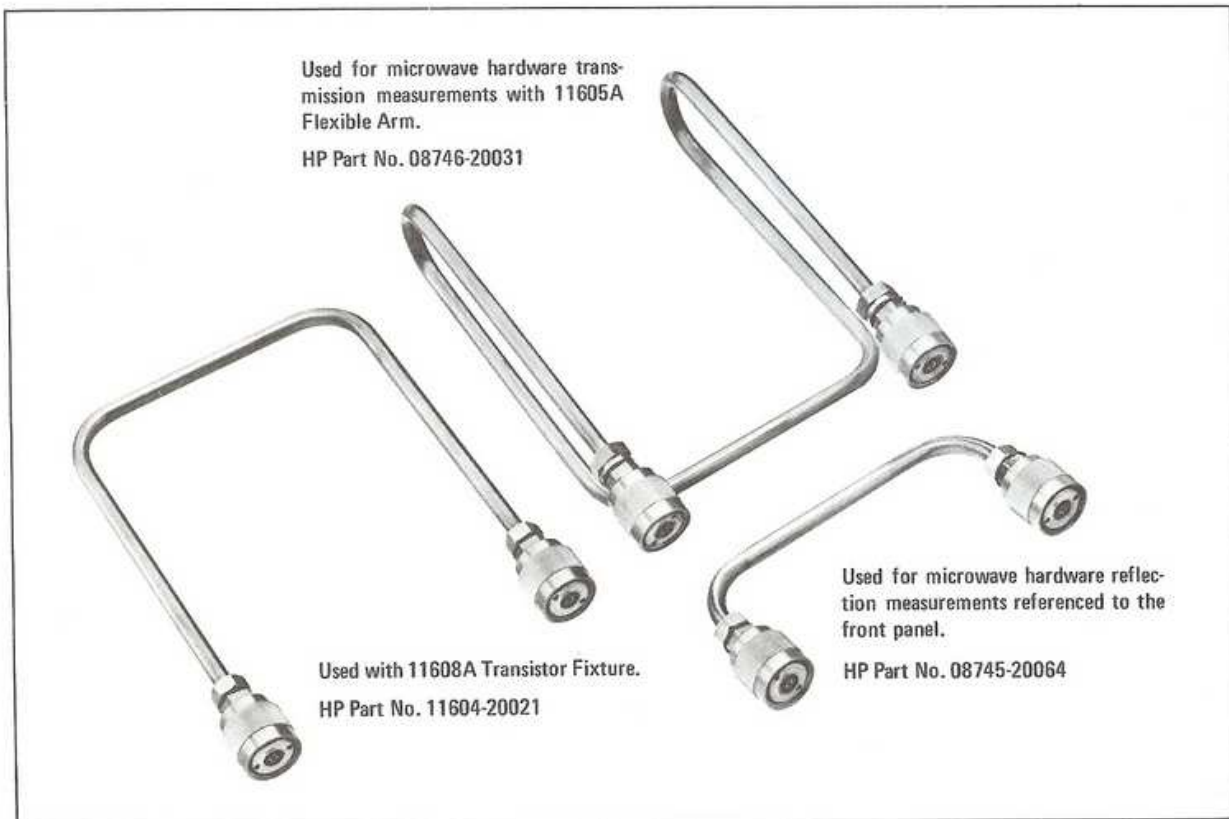

Figure 3-6. Reference Line Coaxial Patch Cables
- a. If swept-frequency phase measurements are to be made, the reference and test channel line-lengths must be equal. The length of the reference channel is adjusted by varying the REFERENCE PLANE EXTENSION and the length of the REFERENCE LINE coaxial patch cable on the rear panel. The REFERENCE LINE can be removed and other length reference lines (see Figure 3-6) can be installed to approximately equalize the test and reference channel line lengths. To best utilize the REFERENCE PLANE EXTENSION range, install one of the following REFERENCE LINE coaxial patch cables: